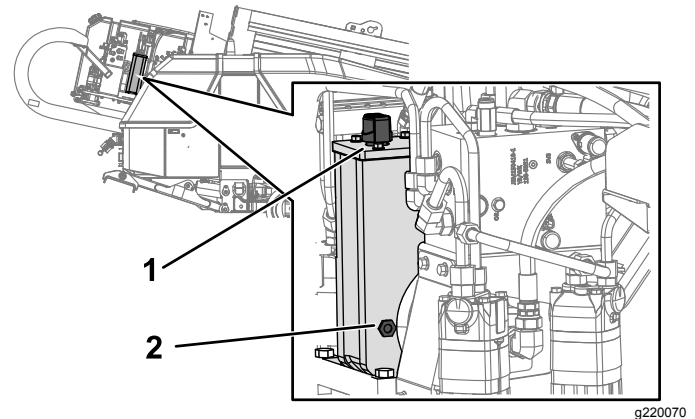

Figure 100
2. Check the oil level on the sight-glass on the gearbox drive (Figure 100).
3. Remove the breather cap and add the oil into the gearbox drive until the oil level on the sight-glass is at least half full (Figure 100).
6. Fill the gearbox with oil until the oil level in the sight glass is more than half full (Figure 100).